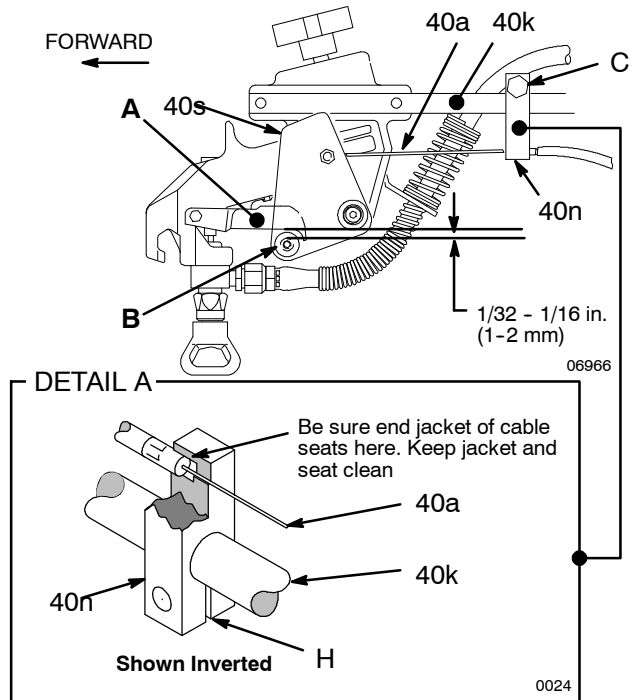

Fig. 6
To reduce the risk of an injection injury due to remotely triggering the gun by accident, always disengage the trigger cable from the block before handling the gun. See Fig. 6, DETAIL A, . **The gun will trigger briefly when releasing the cable!** Before you remove the gun from the holder, engage the gun trigger safety latch.
1. To disengage the cable, grasp the cable (40a) just behind the block (40n). Pull the cable back about 1/2 inch (13 mm) and then up and out of the block. **The gun will trigger briefly!** See Fig. 6.
2. To engage the cable, slide the cable (1) into the block (48), making sure the end of the cable jacket seats firmly in the seat of the block. **The gun will trigger briefly!** See Fig. 6.
Trigger Cable Tension Adjustment See Fig. 6
<p>Do not allow the cable (40a) to rub against the outside edges of the slot (H) in the block (40n), to prevent premature wear of the cable. Rotate the block slightly to eliminate rubbing. See Fig. 6, DETAIL A.</p>